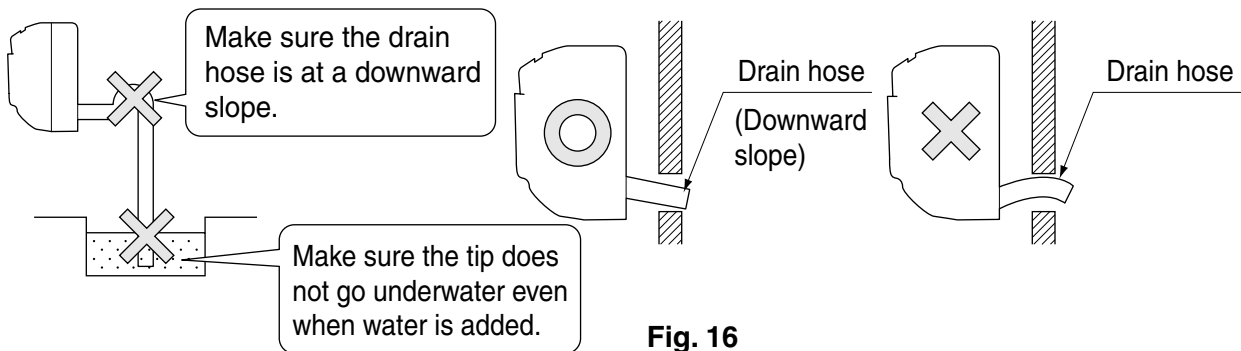

Fig. 16
(1) Install the drain piping. (Refer to Fig. 16)
- Watch out for the points in the Fig. 16 when performing drain work.